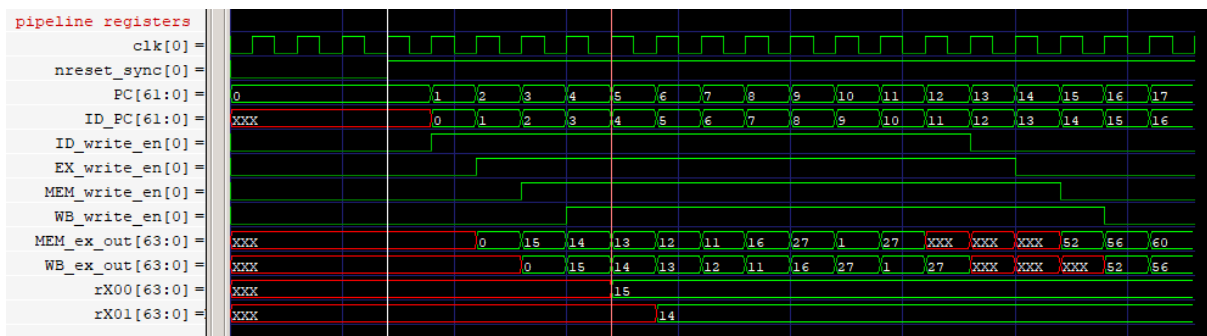

Figure 12: Waveforms of some pipeline registers
- The write_en signal propagates through the ID, EXE, MEM, and WB stages at each rising edge of the clock, as shown in Figure 12. Same case for **PC** and **ID_PC**.